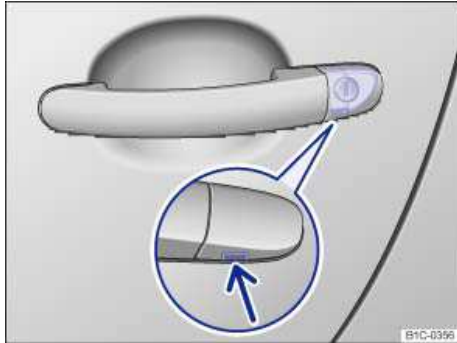

Fig. 196 Door handle on driver door: Concealed lock cylinder.
- Insert the key bit from below into the opening of the cover cap on the driver door ⇒ fig. 196 (arrow) and lift the cover cap off. Grasping the door handle and pulling slightly makes it easier to remove the cap.